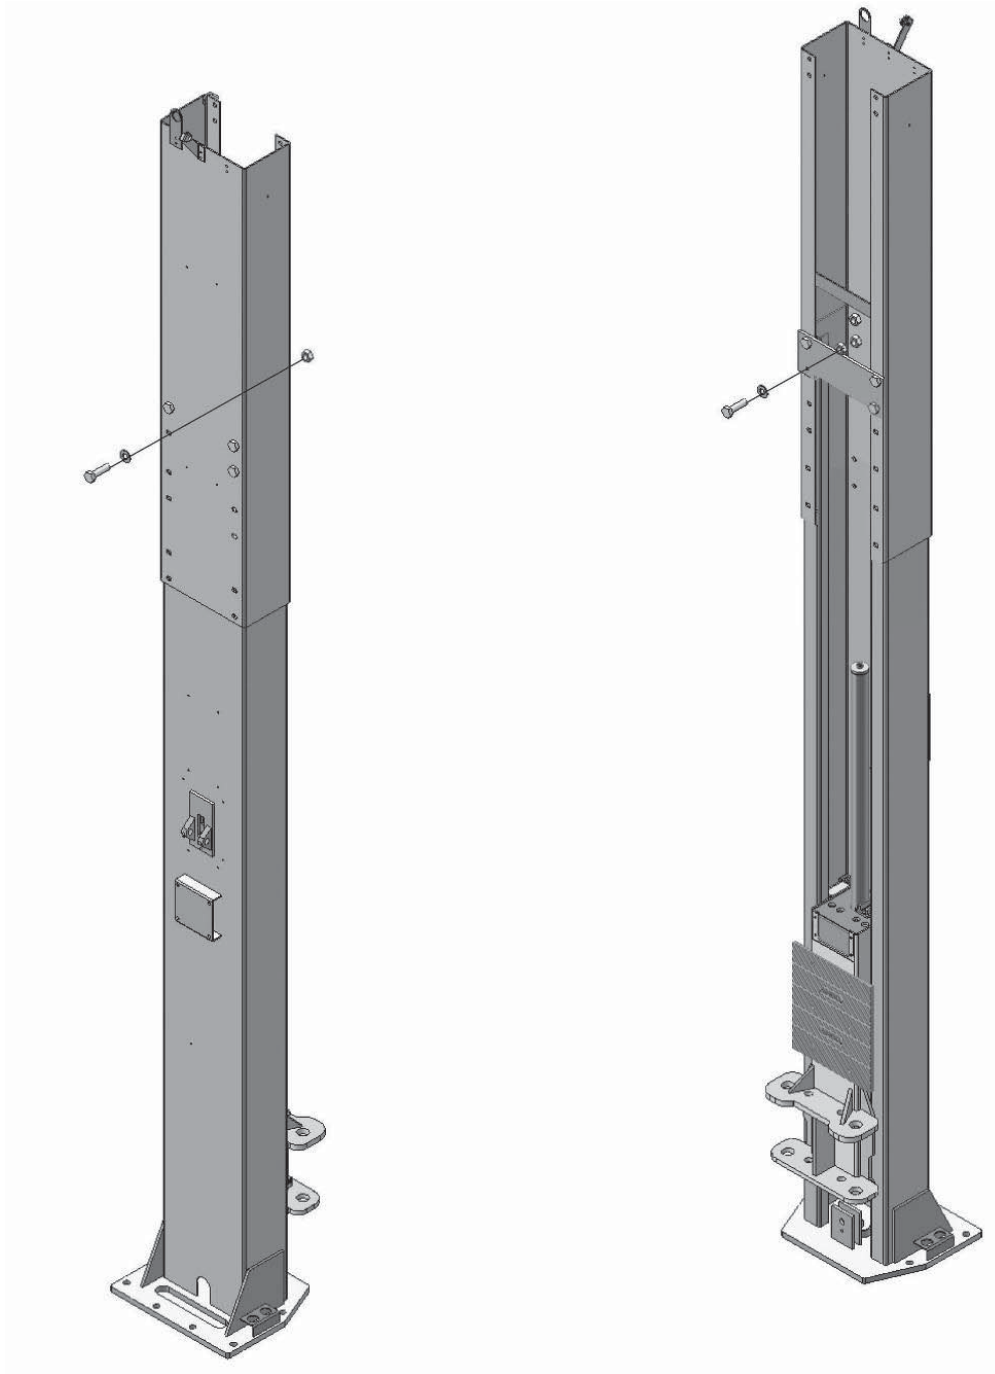

Fig. 19 Special low Setting
3. When the ceiling height is less than 4200mm (165 3/8"), connect the outer columns to the upper holes. **The cables are a special order option for the extra low setting.** (See Fig. 19).